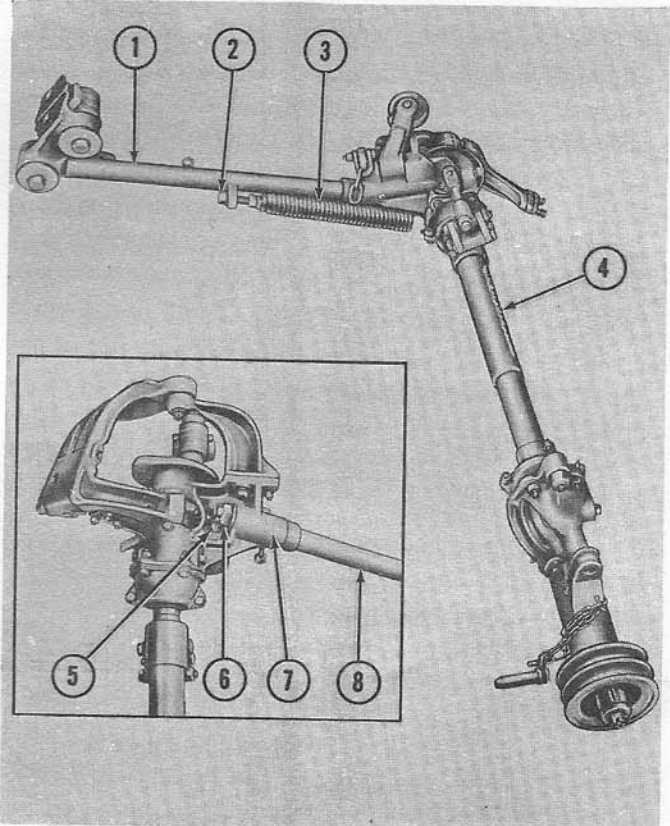

Figure 24
9. Remove the large castellated nut (6), Figure 24, and washer from the threaded end of the drag bar (8), and remove the paint from the machined surface. Install the drag bar and tighten the castellated nut and washer until all clearance is removed; however, the hinge must be loose enough to turn when adjusting the cutter bar tilt. Secure the nut with the cotter pin as shown in Figure 24. Install a mounting stud in the drive housing.